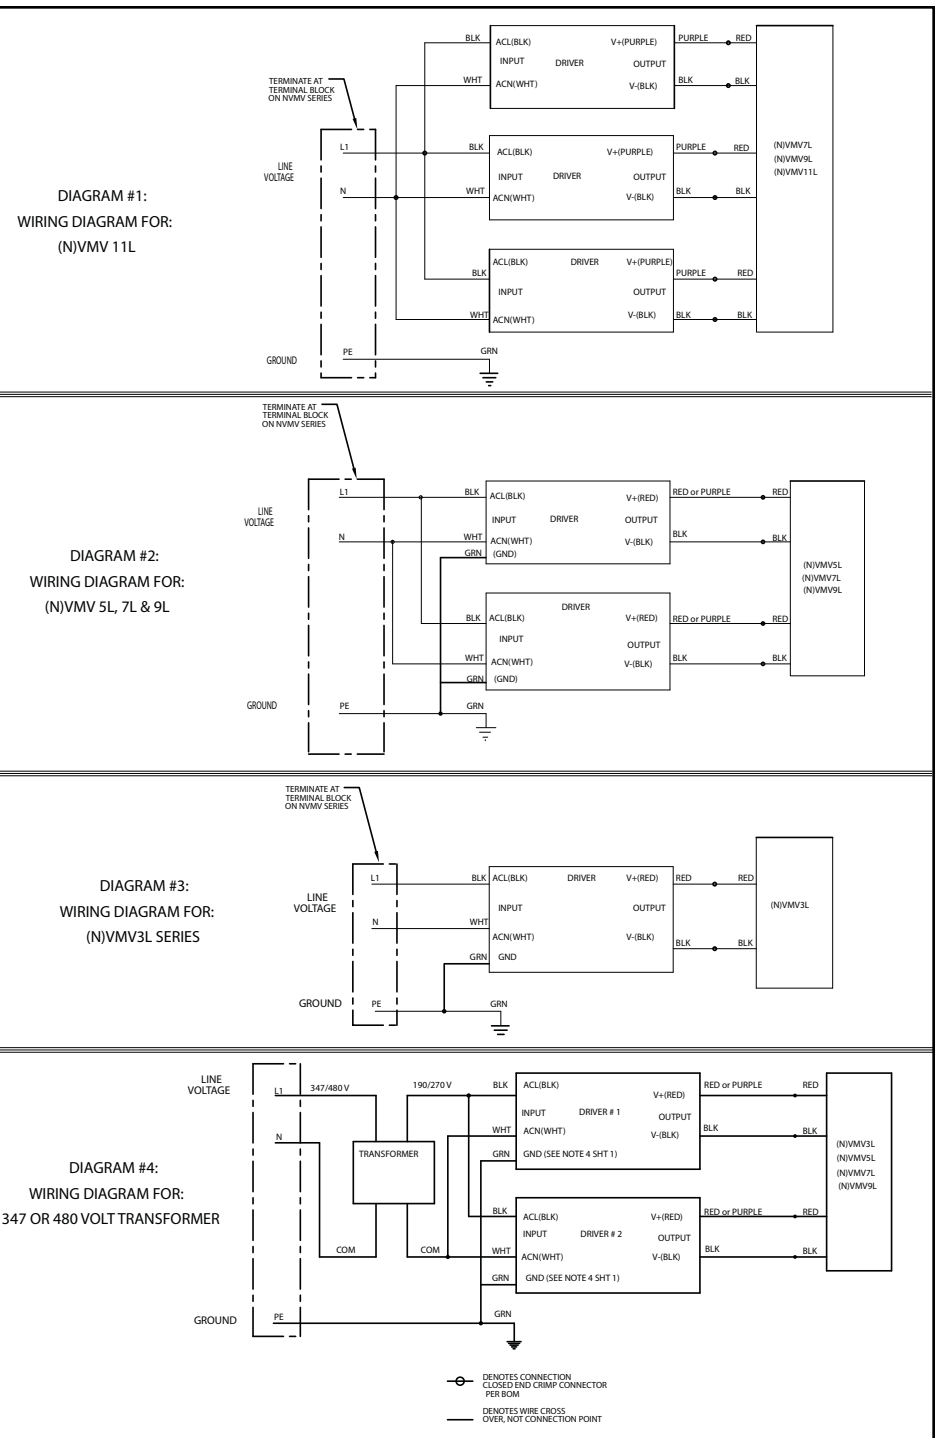

FIGURE 2b
4. Connect supply wires to luminaire wire leads* per the attached wiring diagrams using methods that comply with all applicable codes. See Figure 2b. Tighten all electrical connections.
5. Close driver housing onto cover module, making sure that all wires are safely inside driver. Tighten captive closing screw to 30 in.-lbs. (3.4 N-m). Ensure two (2) bosses on driver housing are in contact with cover module.